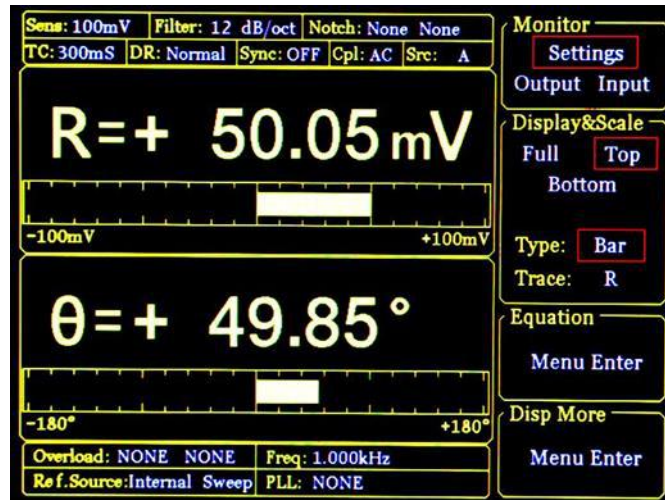
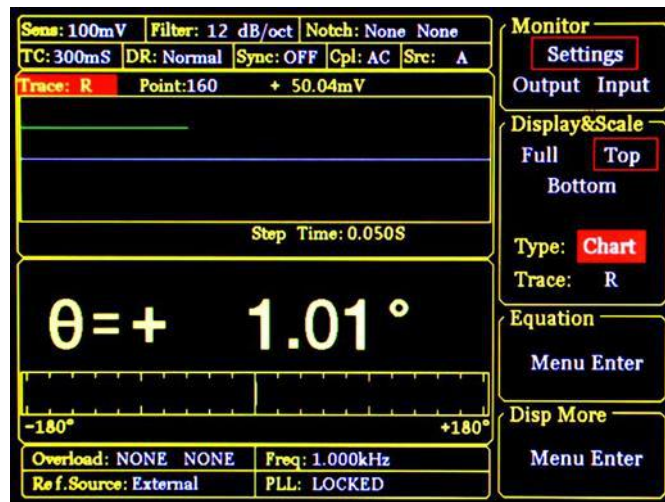

Fig.30 <Top>-<Bar> Display
Fig.31 <Top>-<Chart> Display
- <Top> Only choose the top area to set. When <Type> or <Trace> is changed, the display way of top area will change, as is shown in Fig.30 and Fig.31. There are two choices in <Type>, including <Bar> and <Chart>. If <Type> chooses <Bar>, <Trace> provides options, including fundamental wave, harmonic, and Equation. If <Type> chooses <Chart>, <Trace> provides options: <Buffer1>, < Buffer2>, < Buffer3> and < Buffer4>. <Buffer> is set by <Select> submenu of <SAMPLE>.